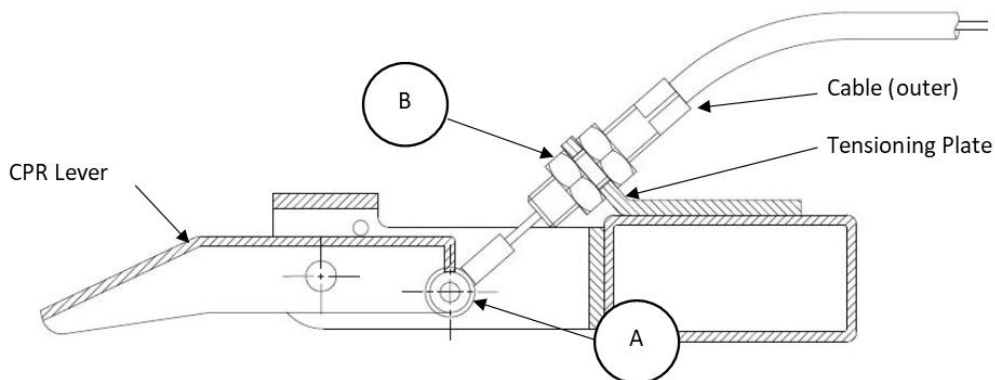

Figure 20: CPR release lever cable connection
6.28 CPR Release Cable - Replacement & Adjustment (Refer figure 20)